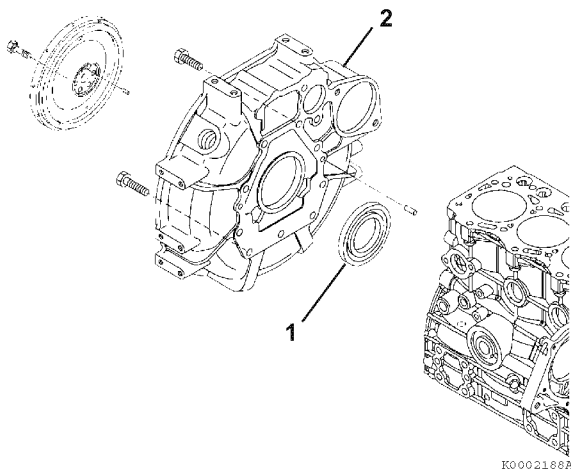

Figure 6-64
4. Remove the rear oil seal (1, Figure 6-64) from the flywheel housing (2, Figure 6-64).
5. Apply a continuous bead of ThreeBond Liquid Gasket No. 1212F, YANMAR Part No. 977770-1212F to the outside diameter of a new oil seal (1, Figure 6-64).
6. Install a new seal in the flywheel housing (2, Figure 6-64) with the lip facing in away from the flywheel. Apply lithium grease to the lip of the seal.